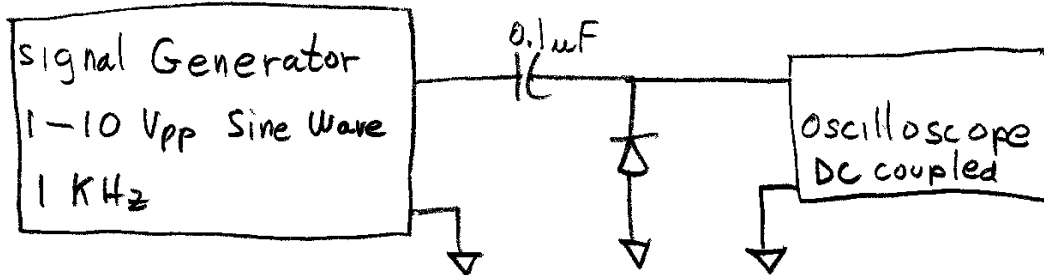

Figure 5: Clamping circuit
4.1 Build the circuit in Figure 5.